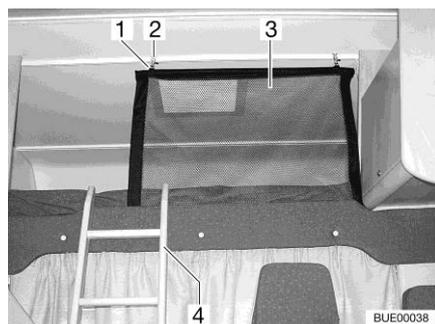
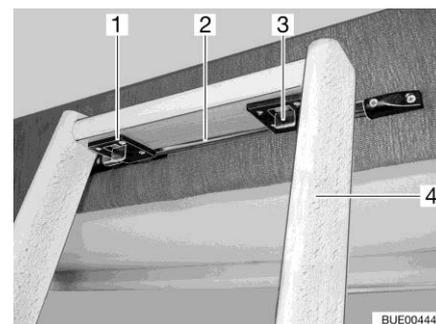

Fig. 101 Overcab bed
Fig. 102 Access ladder, catch
Always use the access ladder (Fig. 101,4 and Fig. 102,4) provided as standard to access the overcab bed.
- Hang the ladder with the two hooks (Fig. 102,1) on the rail (Fig. 102,2) of the alcove flap.
- Push the two catches (Fig. 102,3) forward.
The safety net (Fig. 101,3) is stored as standard between the mattress and slatted frame. Only use the safety net if persons are already in the alcove.
- Attach the holder (Fig. 101,1) to the eyes on the ceiling (Fig. 101,2).